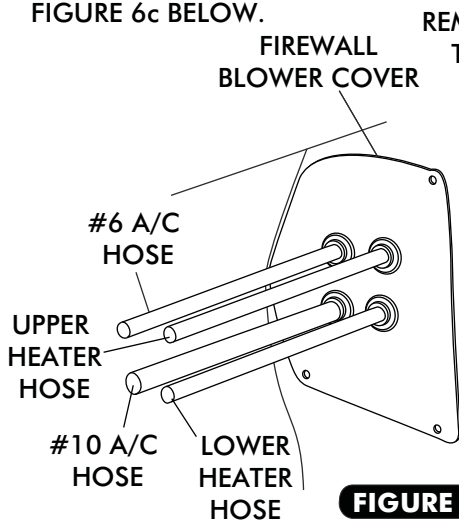

FIGURE 6
- ☐ ROUTE A/C AND HEATER HOSE THROUGH FIREWALL BLOWER COVER AND KICK PANEL COVER AS SHOWN IN FIGURE 6 AND 6c, BELOW.